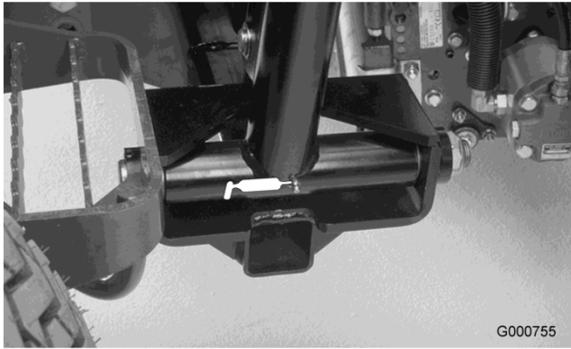

Figure 34
- Lift arm pivot (3) (Figure 34)